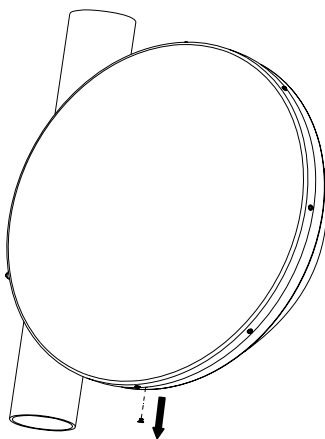

Fig 5.1
5.2 Keep the antenna's bottom drain-hole open by removing the plug. Keep the top one sealed. (Fig 5.1 and Fig 5.1.1).